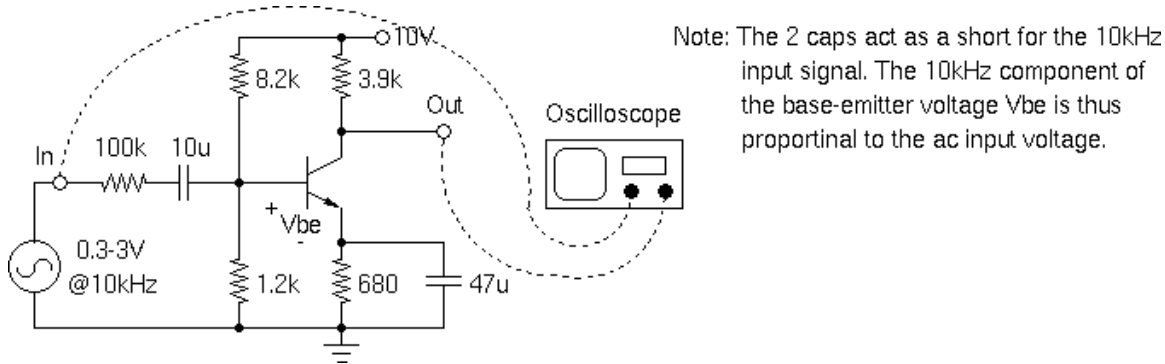

Figure 1: Test circuit for distortion analysis (Note: $V_{be} \approx V_{BE} + V_{ac}/120$).
The circuit we will use to investigate the distortion caused by the non-linear PN junction is shown in figure 1. At the operating frequency of 10kHz, we can write the output voltage of this circuit as $V_{out}=V_{CC}-I_cR_C$. Since $I_c \approx I_e$, the ac component of the output varies as the (non-linear) base-emitter junction current.
1. Assume that equation (3) is terminated after the cubic term and express I_{DC} , k_1 , k_2 and k_3 by the variables used in equations (1) and (2). (**pre-lab task**).
3. Determine the operating point parameters of the circuit shown in figure 1, i.e., V_C , V_B , V_E and I_E , via a PSpice simulation. The NPN transistor we are using in this lab is the 2N3904.
5. Build the circuit depicted in figure 1 on your Protoboard and verify its operating point parameters. Set $V_s=0$ for these measurements.